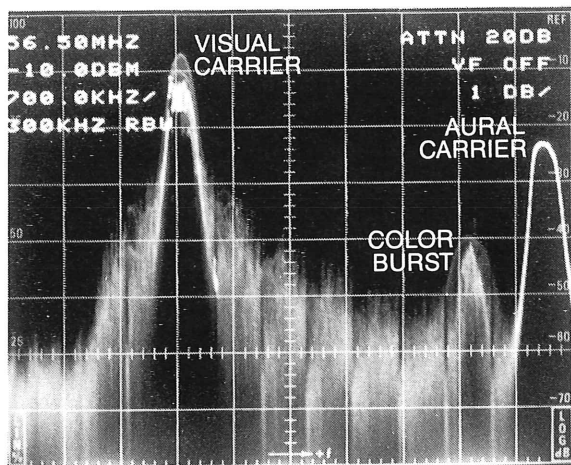

Figure 14. Broadcast TV signal spectrum.
3. Adjust the reference level until the spectrum of the TV signal is above half-screen, and turn off all waveform registers. Compare your display to Figure 14, which demonstrates the signal detail that can be seen in analog display mode.